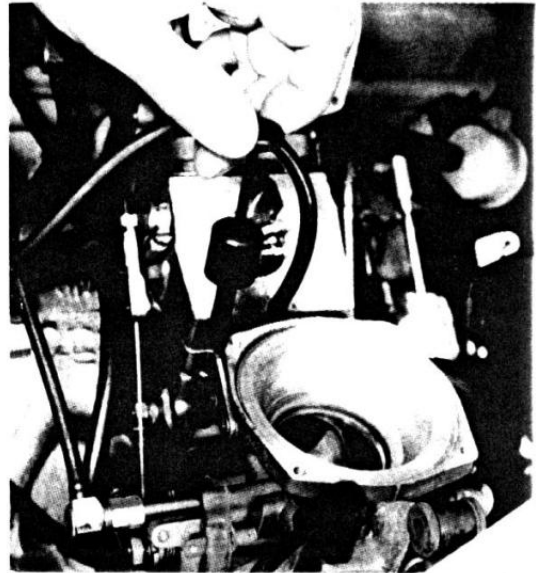

FIG. 66
10. Now adjust both the idle screws using MS.86 so that the butterflies are open 1½ complete turns on each screw and temporarily secure the setting as illustrated in Fig. 66.